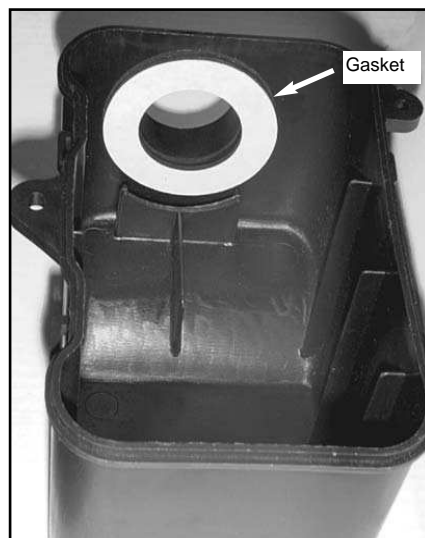

Fig. 1
3. Apply the provided gasket into the air box using the intake opening as a guide. (Fig. 1)